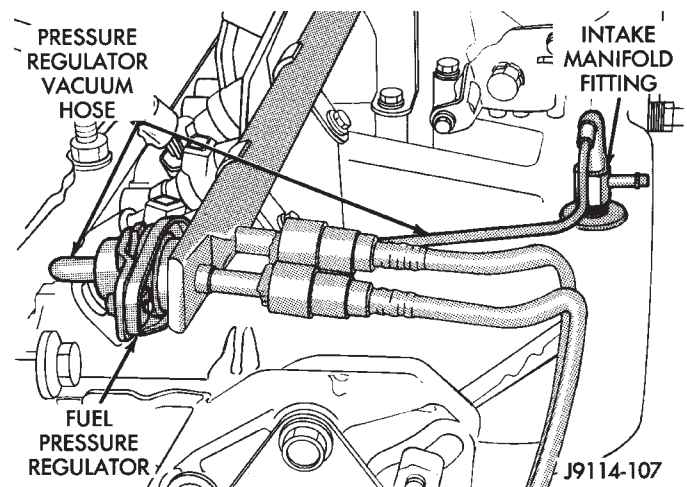

Fig. 8 Fuel Pressure Regulator—Typical
The fuel system is equipped with a vacuum assisted fuel pressure regulator (Fig. 8). With engine at idle speed, system fuel pressure should be approximately 214 kPa (31 psi) with the vacuum line connected to the regulator. With the vacuum line disconnected from the regulator, fuel pressure should be approximately 269 kPa (39 psi). This is 55-69 kPa (8-10 psi) higher.
(3) Disconnect vacuum line (hose) at fuel pressure regulator (Fig. 8). Note gauge reading. With vacuum line disconnected, fuel pressure should rise to approximately 269 kPa (39 psi).